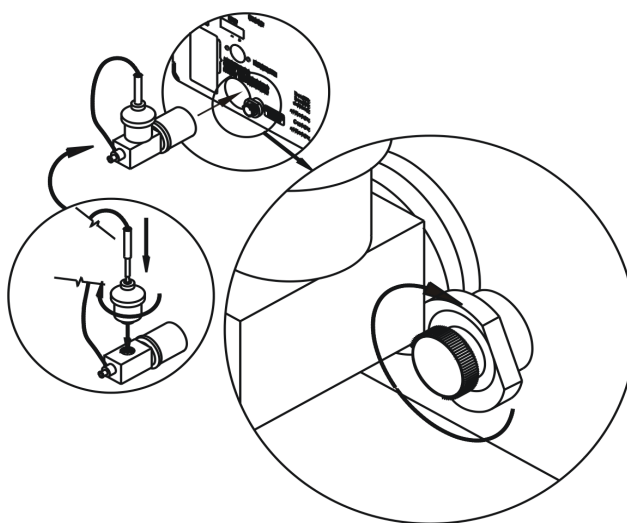

Figure 4-19. Oxygen Sensor Installation Diagram
4.7.8 Oxygen Sensor Replacement. The Oxygen Sensor (Invivo Research, Inc. Part Number 9445) is located on the rear of the monitor at the Waste Cell Exhaust location (See Figure 1-4 for location and Figure 4-19 for Installation Diagram). The Oxygen Sensor has an expected life of greater than six months with expected life inversely proportional to changes in Oxygen Concentration, Temperature and Pressure. The Oxygen Sensor begins aging immediately upon the opening of the package and should, therefore, not be opened until ready for use. The Oxygen Sensor should be replaced periodically as part of routine maintenance. This monitor cannot be connected to the scavenge gas system without the Oxygen Sensor installed, **never operate without the monitor connected to the scavenge gas system.** Always operate the monitor with the Oxygen Sensor installed.